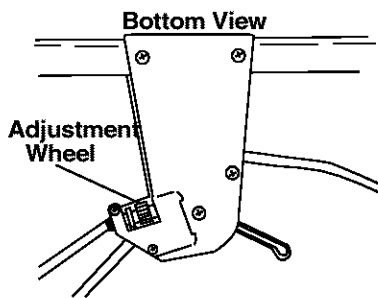

Figure 17
- To resolve the above problems, rotate the adjustment wheel with your fingers: clockwise to tighten the cable and counter-clockwise to loosen the cable. See Figure 17.